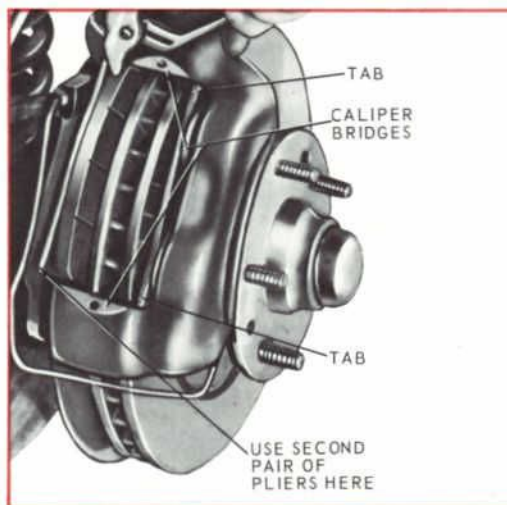

Figure 19—Removing Fixed Caliper Shoe and Lining
Fixed caliper linings can be checked without removing the caliper assembly. After removing the wheel and tire (being careful to avoid damage or interference with the caliper splash shield, bleeder screw fitting or transfer tube), remove the caliper splash shield. Apply a steady inward pressure against each shoe and lining assembly toward its respective caliper housing on each side of the rotor. Maintain pressure for at least a minute. If pistons do not move in easily, force them in with water pump pliers. Grasp the metal flange on the outer end of the shoe with two pairs of pliers and pull the shoe out of the caliper (Fig. 19).
1. Position a new shoe and lining assembly on each side of rotor so lining faces rotor. Be sure that the tabs on the shoe flanges fully seat against caliper bridges (Fig. 19). If caliper was not disassembled proceed as follows: